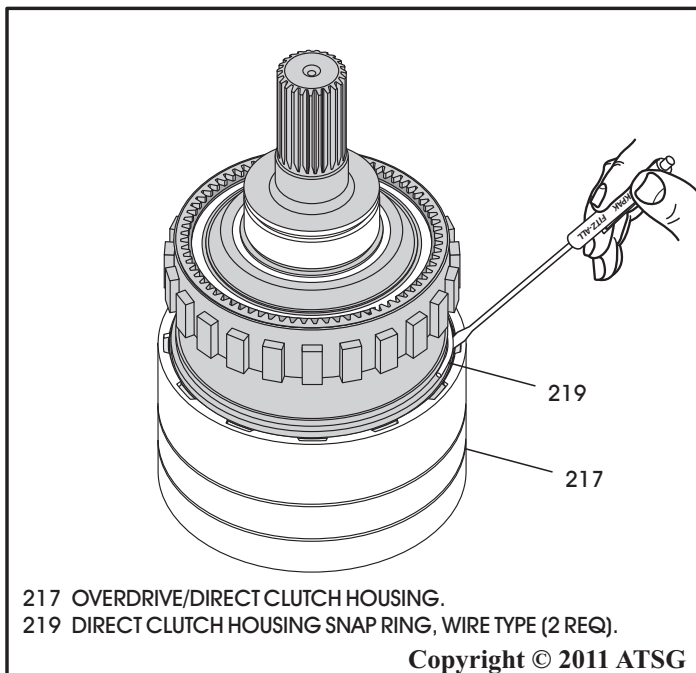

Figure 164
33. Turn the assembly over and remove the lower "wire type" snap ring retaining overdrive direct clutch housing to overdrive ring gear, as shown in Figure 164.